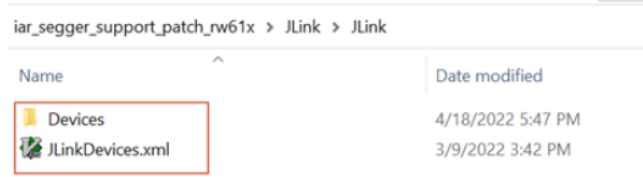

Figure 3. J-Link install directory
- Copy *Devices* directory and *JLinkDeivces.xml* files to *J-Link install* directory at the location: *C:\Program Files\SEGGER\JLink*, as shown in Figure 3